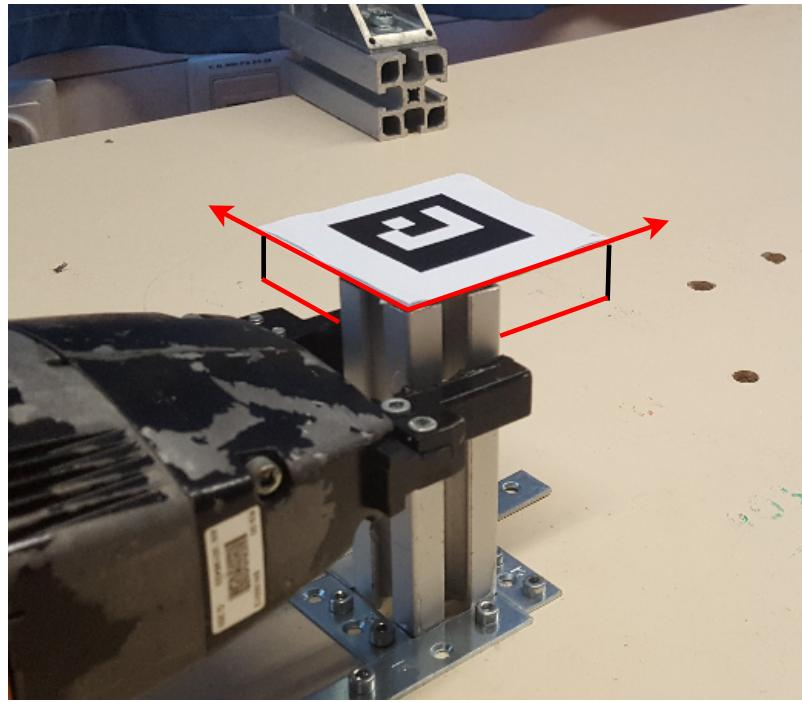

Figure 7: Correct orientation of an object used by youBot arm 1
- Additionally, you must ensure that the object is placed in the container with a constant orientation. i.e. the marker attached to the object must always have the **same orientation** (in order for the ground-truth orientation measurements to make any sense). The correct orientations for the objects used by arms 1 and 3 are shown in figures 7 and 8 respectively.